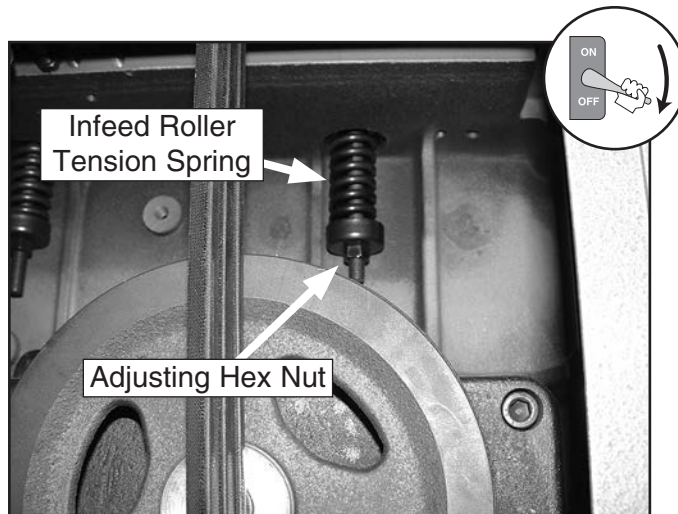

Figure 46. Infeed roller tension spring (left side shown; top left access panel removed).
- Remove the top right and left access panels and identify the infeed roller tension springs (see **Figure 46**).
- Adjust the infeed roller tension with the hex nut underneath the tension spring (see **Figure 46**).